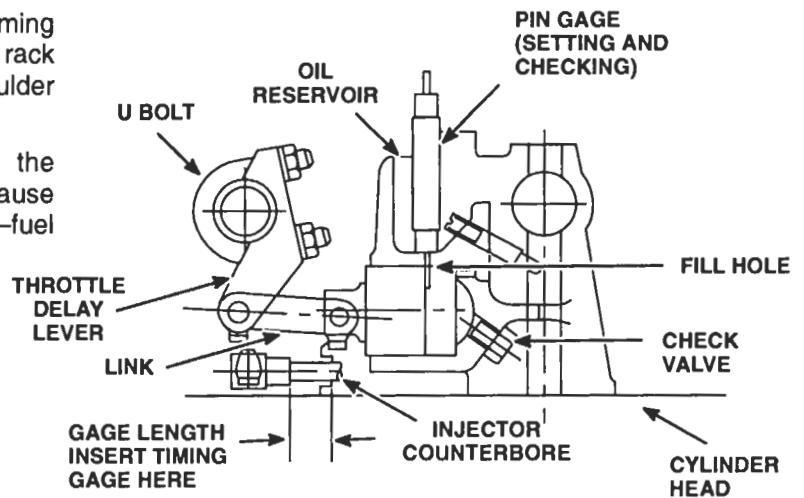

Figure 5. Adjusting Throttle Delay Cylinder (Current)
3. Insert the appropriate throttle delay timing gage (see charts in Section 14) on the rack between the injector body and the shoulder on the injector rack clevis (Figure 5.)